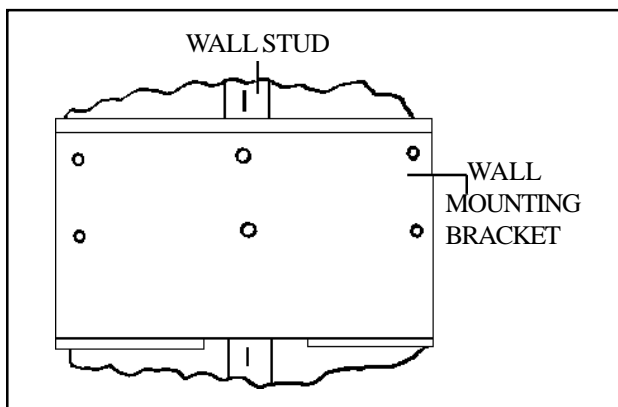

FIGURE 3
STEP 3. Attach wall mounting bracket to wall stud with top at desired height, using (2) screws provided. Make sure top of bracket is level. See Figure 3.